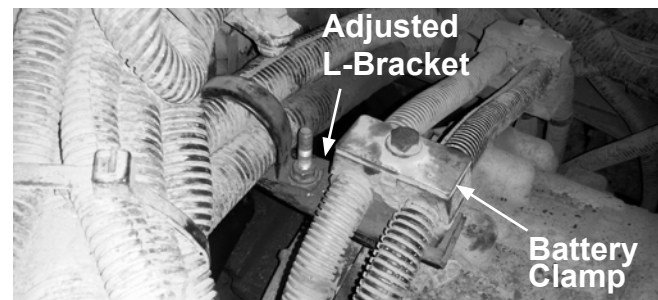

Figure 7, Battery Clamp Reconnect
17. Reconnect the battery cable clamp, disconnected in step 7, to the adjusted L-bracket (see Figure 7).